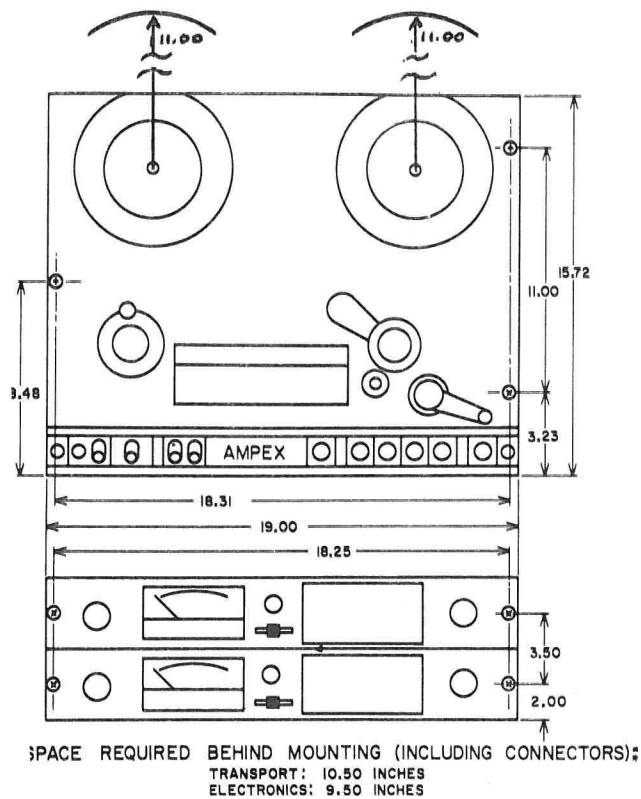

Fig. 2-1. Mounting Dimensions
2.2 MOUNTING UNITS (See Figure 2-1)
Equipment ordered with the console, or with portable cases, is mounted in position at the factory. Unmounted equipment can be mounted in a standard 19-inch rack, or in a custom cabinet. Mounting dimensions are given in Fig. 2-1. Insure that adequate ventilation space is provided between units.